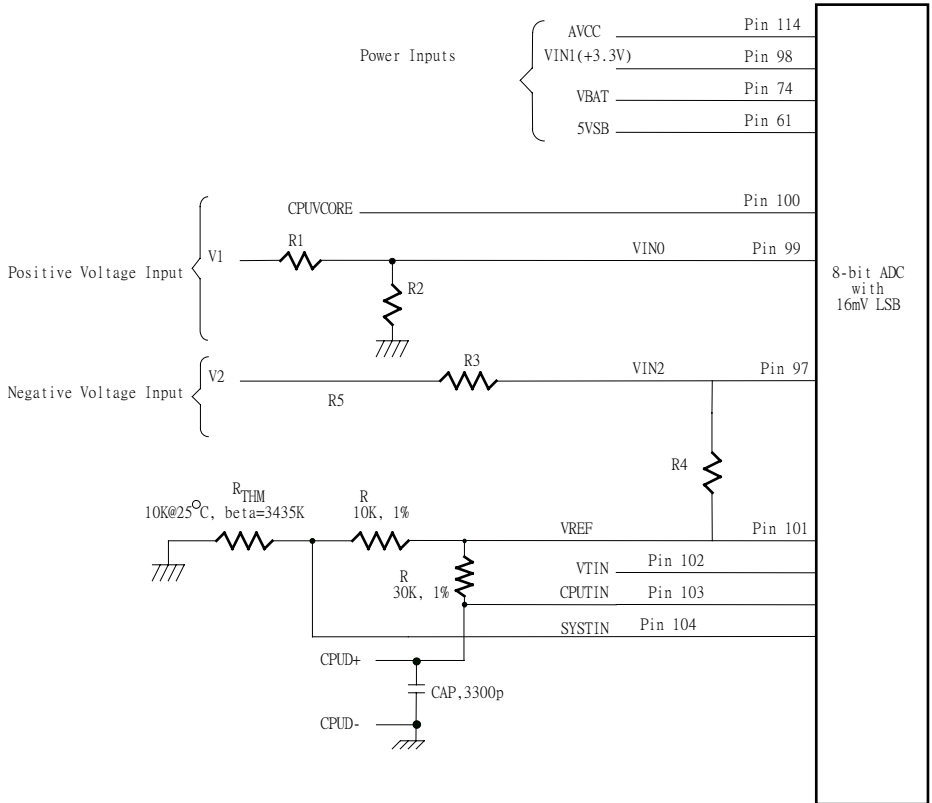

Figure. 3-2
The maximum input voltage of the analog pin is 4.096V because the 8-bit ADC has a 16mv LSB. Really, the application of the PC monitoring would most often be connected to power suppliers. The CPU Vcore voltage, +3.3V, battery(pin 74), AVCC(pin 114) and 5VSB voltage can directly connected to these analog inputs. The +12V voltage inputs should be reduced a factor with external resistors so as to obtain the input range. As Figure 3.2 shows.
The W83627THF can connect three thermistors to measure three different environment temperature. The specification of thermistor should be considered to (1)  $\beta$  value is 3435K, (2) resistor value is 10K ohms at 25°C. In the Figure 3-2, the themistor is connected by a serial resistor with 10K Ohms, then connect to VREF (Pin 101).